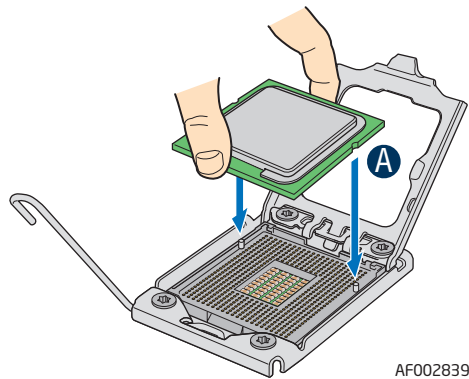

Figure 14. Installing the Processor
15. Orient the processor with the socket so that the processor cutouts match the two socket pins, and insert the processor into the socket (see Figure 14).